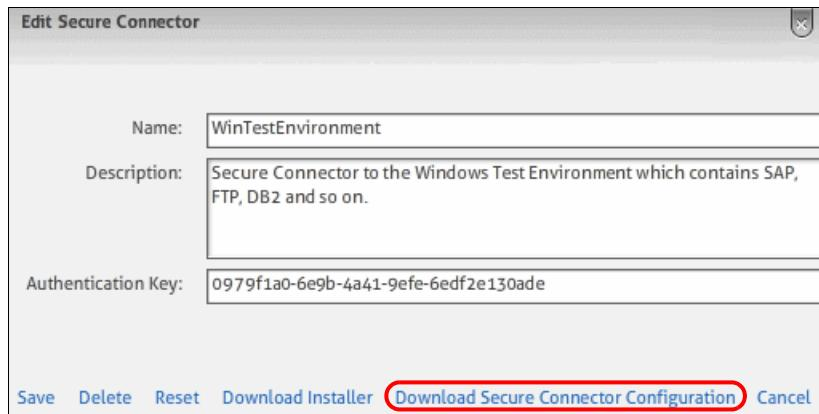

Figure 2-34 WebSphere Cast Iron Live Edit Secure Connector
- Click **Download Secure Connector Configuration**, as shown in Figure 2-34 on page 64.